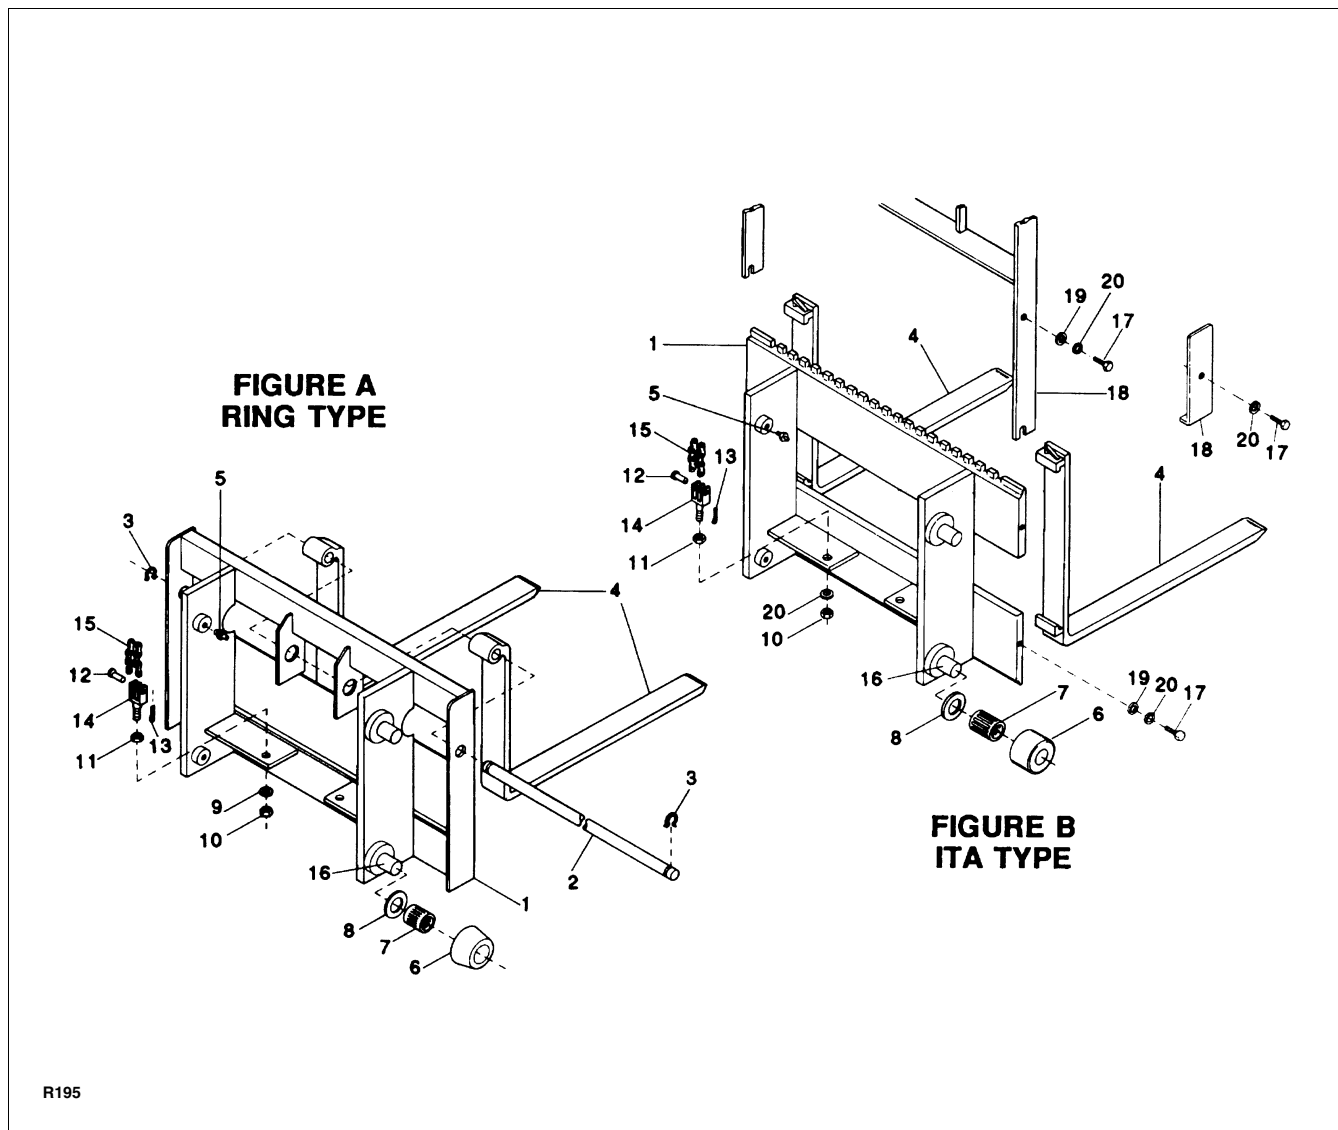

Figure 5-5 Lift Carriages and Forks
CAUTION: At least 3 full threads must be present below hex nut (10, Figure 5-5) after completion of adjustment.
4. Remove cotter pin (13, Figure 5-5) and clevis pin (12) that secure the chain to adjusting bolt (14).
6. Position new chain in place on sheaves (18).
7. Install cotter pin (13, Figure 5-5) and clevis pin (12) on chain adjusting bolt.
6. Position new chain in place on sheaves (11).
Check the lift forks periodically for cracks and other damage. Figure 5-5 illustrates the two styles of forks. See Table 10-1 for forks and their relationship to truck model numbers.
Backrests of differing widths are available for use on lift trucks equipped with ITA type carriages. See Table 10-2 for load backrest part numbers. Figure 5-5 illustrates a load backrest.